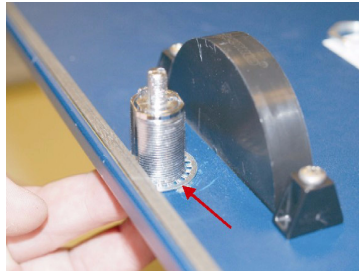

Figure 14 Place lock washer over cylinder
3. Place lock washer over the cylinder (Figure 14).